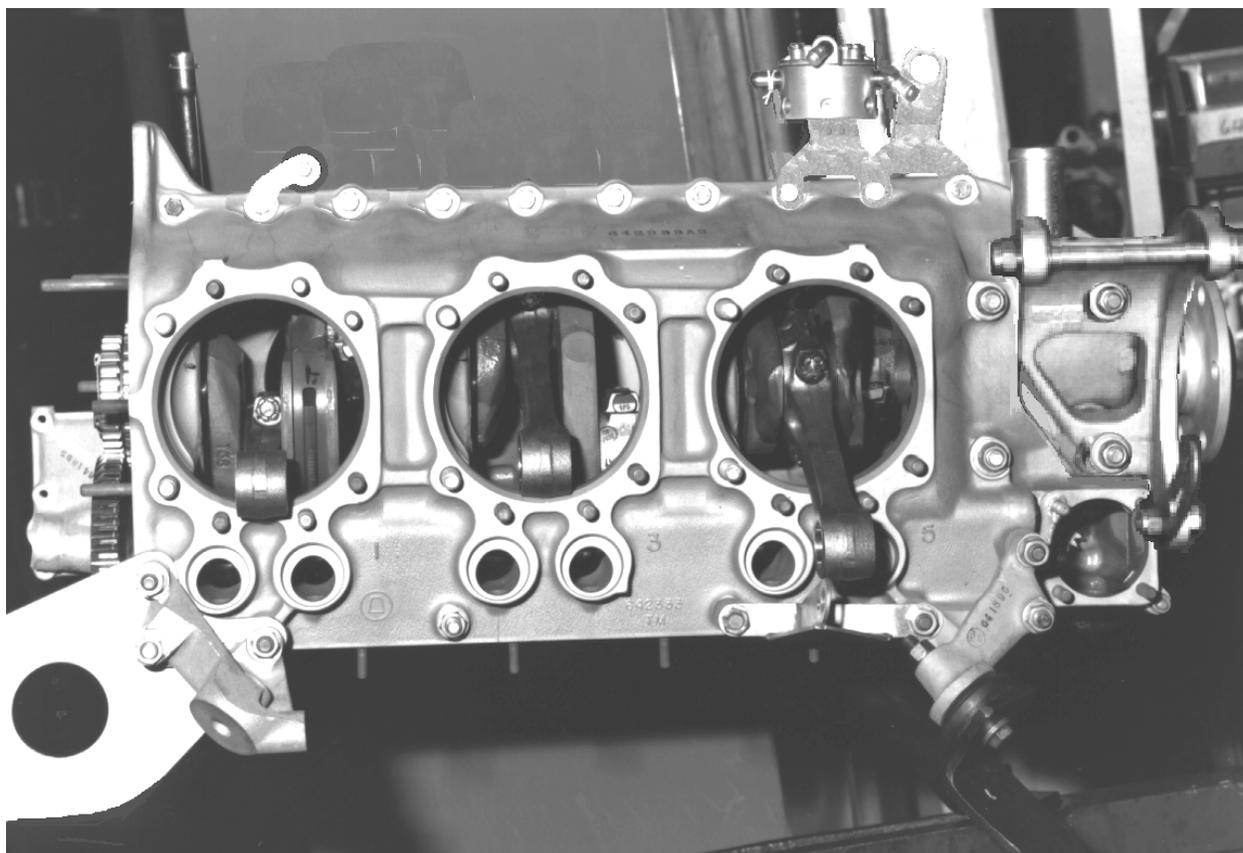

FIGURE 19-6. RIGHT SIDE VIEW OF CRANKCASE ON STAND
- Rotate engine stand to place engine in upright position as shown in Figure 19-6, "Right Side View of Crankcase On Stand." Support connecting rods using old (clean) cylinder o-rings. See Figure 6-15A, "Connecting Rod Support."